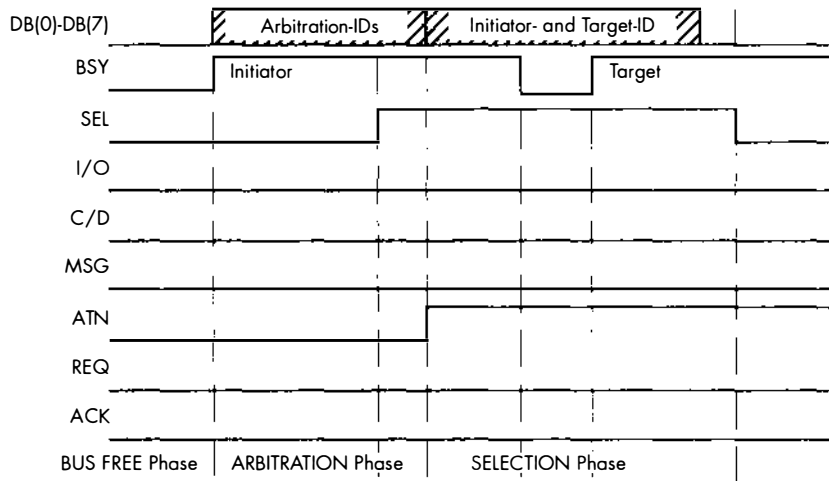

Figure A.25: ARBITRATION Followed by a SELECTION Phase
The timing diagrams included in Figures A.25 through A.30 illustrate the relationship between the various SCSI signals as follows:
- ARBITRATION and SELECTION phases (Figure A.25)